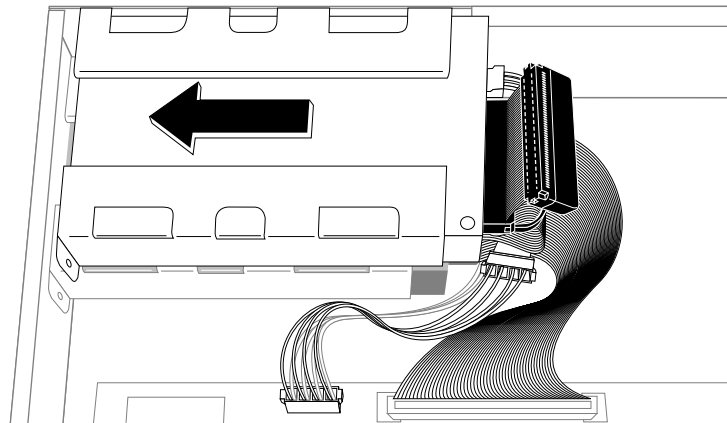

Figure 9-27 Reinstalling the Floptical Drive
13. Reinstall the floptical drive in the upper drive slot, as shown in Figure 9-27.